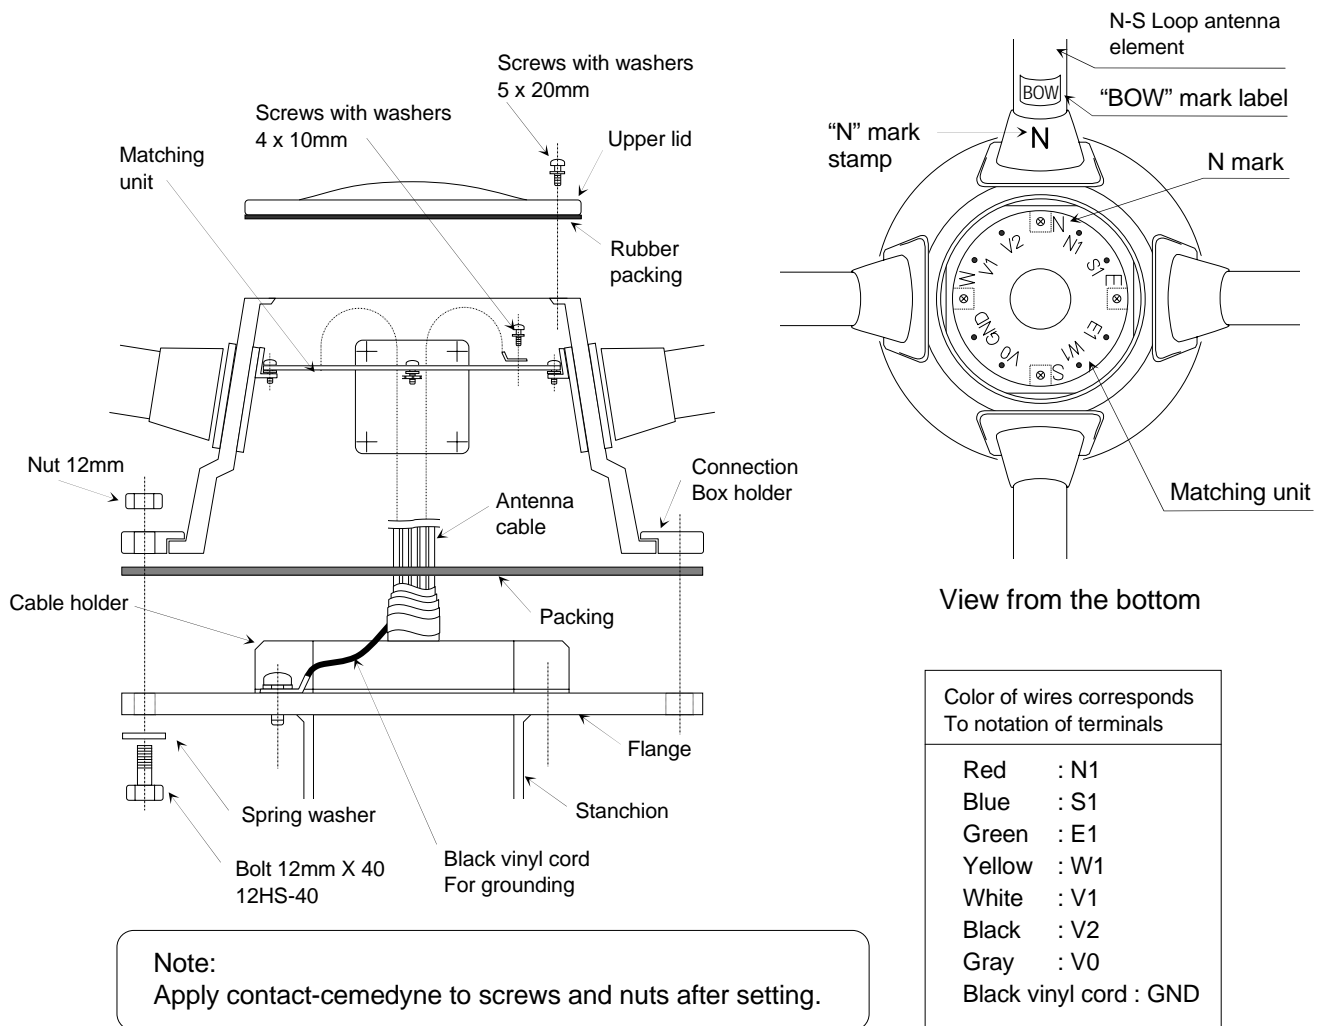

Fig. 3-9 Installation of loop antenna and its cable connection
- (d) Fix the loop support box with bolts, washers and nuts (12HS-40, 12SW, 12N) as shown in Fig. 3-9.